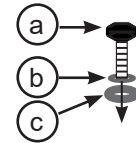

FIGURE 7.3: FASTENER GROUP (BOLT + LOCK WASHER + WASHER)
2. Assemble the fastener group (3/8" x 1.0" Long Bolt, Lock Washer + Flat Washer). (Figure 7.3)